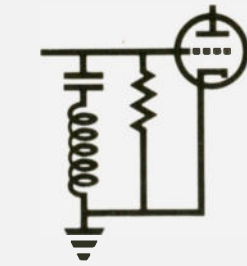

Fig. 16. A combination RC filter is shown in Fig. 17 with the recommended values.
4. Capacitors, rf chokes, and resistors can be used in combinations to make filters to eliminate the interference. For circuits such as those shown in Fig. 16, use a choke of 2 to 6 microhenrys and a capacitor of about 10 picofarads. A combination rf filter is shown in Fig. 17 with the recommended values.